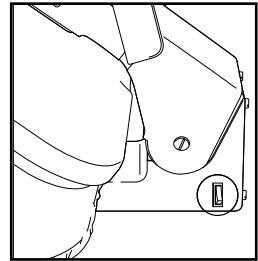

FIGURE 1
1. With Pressing Plate in lifted position, plug power cord into electrical outlet, and set On/Off Switch to “On” (I) position (FIGURE 1).
**IMPORTANT: Auto Shut-Off does not mean that power to the unit is totally cut off. Power is always on, and the Power Indicator Light will remain illuminated until On/Off Switch is set to “Off” (O) position (FIGURE 1, page 6).**